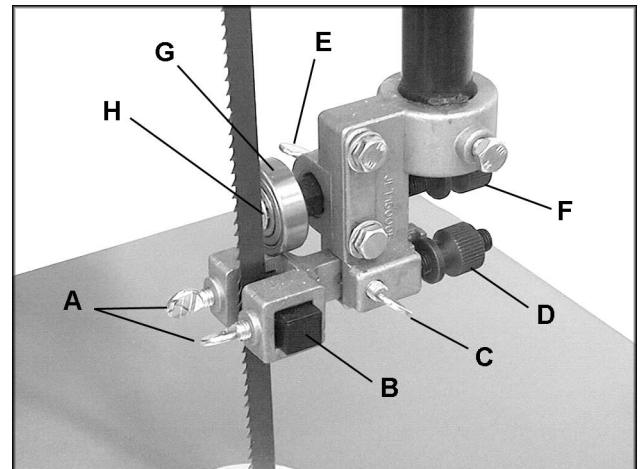

Fig. 19
3. Loosen thumb screws (A, Fig. 19) and move guide blocks (B, Fig. 19) as close to the blade as possible without pinching it.
4. Tighten thumb screws (A, Fig. 19).
5. Loosen thumb screw (C, Fig. 19) and turn knurled knob (D, Fig. 19) to move the guide block bracket in or out until the front edge of the guide blocks are just behind the "gullets" of the saw teeth.
6. Tighten thumb screw (C, Fig. 19).
7. Loosen thumb screw (E, Fig. 19) and turn knurled knob (F, Fig. 19) to move the support bearing (G, Fig. 19) in or out until the bearing is 1/64" behind the blade.
8. Tighten thumb screw (E, Fig. 19).
- The blade support bearing should be adjusted so that the back edge of the blade overlaps the front face of the ball bearing approximately 1/8". To change position of the bearing, remove screw (H, Fig. 19), and bearing (G, Fig. 19), and back off knurled knob (F, Fig. 19) completely to remove the bearing shaft. Notice the bearing holder on the shaft is eccentric. Re-install the bearing shaft, the bearing, and the screw. Examine the overlap between the bearing face and the blade. Change the position of the bearing shaft until the overlap is approximately 1/8".